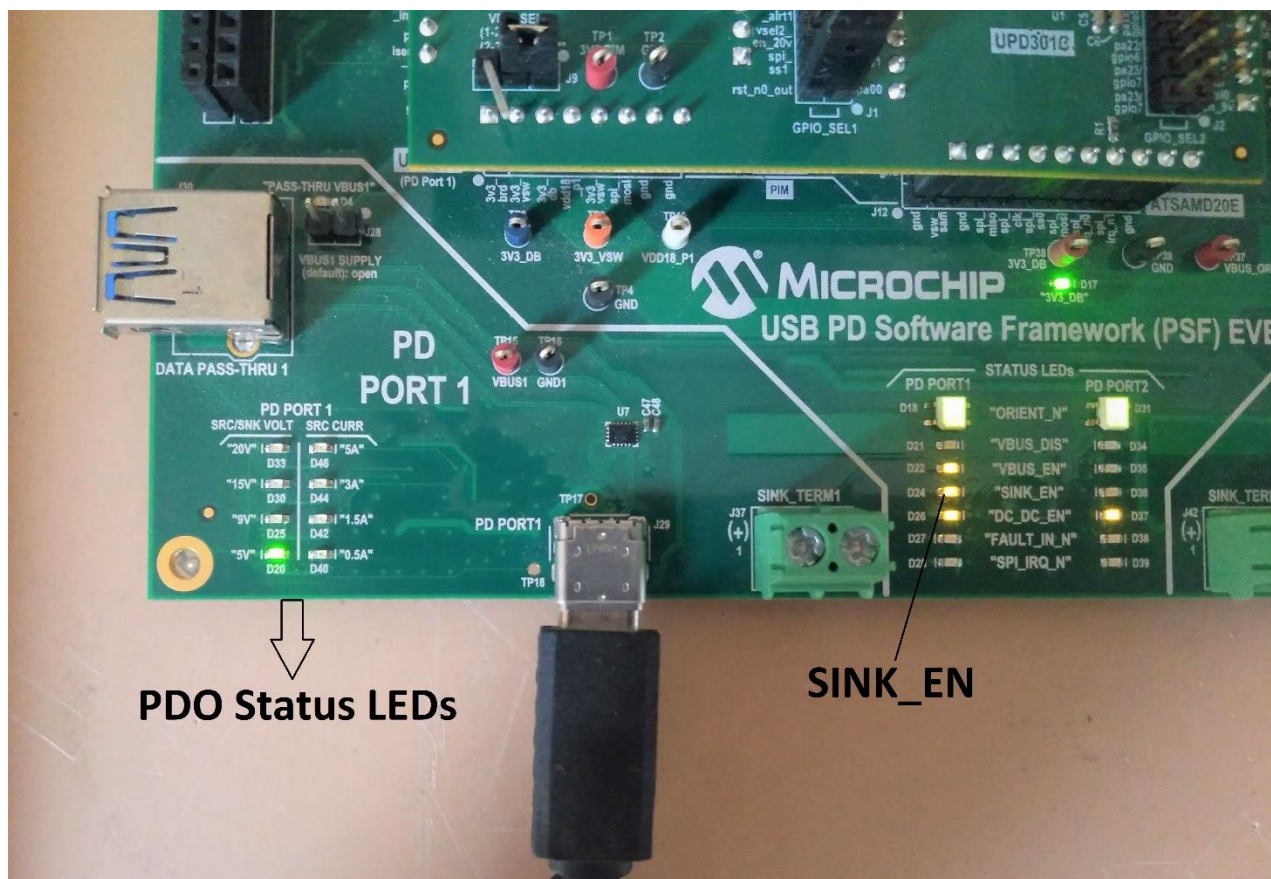

Figure 7.2 PDO Status LEDs after negotiation
3. Once an explicit power contract negotiation is in place, the PSF gets enough power for charging. PDO status LEDs will turn ON indicating the negotiated voltage as shown in Figure 7.2.